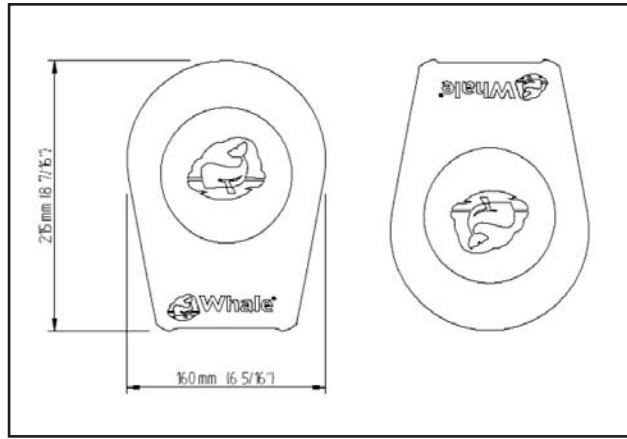

Fig.3 Recommended Mounting Positions
2. Ensure that enough space is available when the pump is installed in order to operate it with the pump handle fully open. (See fig.3 for recommended mounting positions).